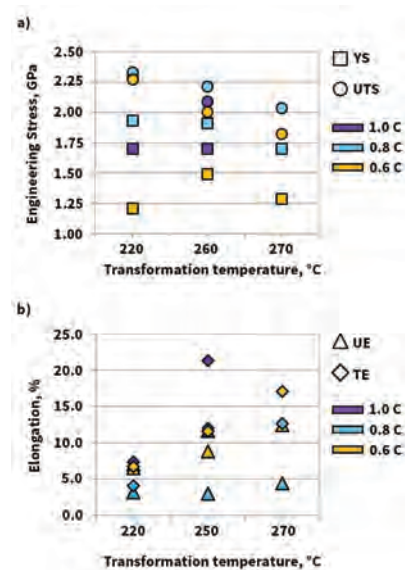

Fig. 1 — Tensile properties on select grades and transformation conditions.
Automotive components such as engine blocks require internal cavities or passages, either to avoid costly machining or for weight reduction. For example, engine camshafts and crankshafts feature an incorporated hollow structure for the latter purpose. In order to manufacture a component with internal cavities during casting processes, cores must be installed before the metal is poured. A core is a replica—an inverse one—of the internal features of the part to be cast (Fig. 1).
Fig. 1 — 3D model shows core concept in casting: (a) part of complex geometry; (b) simplified test component with view of the part with marked core inside; (c) essential core structure with a ring for assembly purposes. Due to the complex shape, the core cannot be removed from the part without breaking.
Low-temperature transformation bainite is harder than previously achieved, with values in excess of 700 HV. Selected alloy compositions along with transformation conditions and microstructural parameters of second-generation nanostructured bainitic steels are shown in Table 1. After transformation at 220° and 250°C, hardness values are always over 600 HV30 with a bainitic ferrite plate thickness of 30-40 nm. Corresponding strength and ductility data of the selected microstructures, in terms of yield strength (YS), ultimate tensile strength (UTS), uniform elongation (UE), and total elongation (TE) are illustrated in Fig. 1.